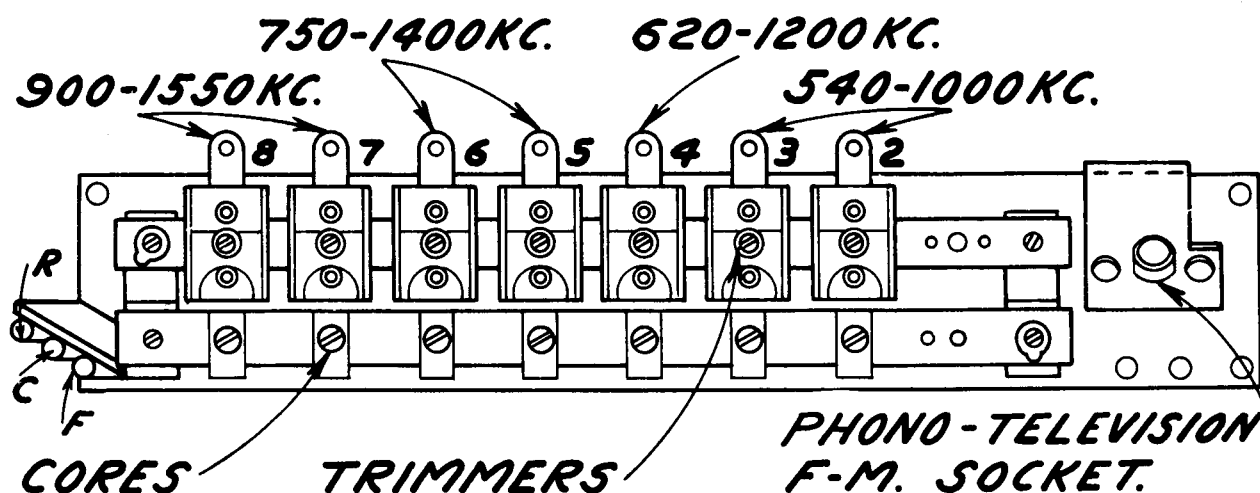

Fig. 4
(1) Turn "Range selector" to "A" position and manually tune in the first station, say 560 k.c.
(2) Turn "Range selector" to "P.B." position, press button No. 2 located second from left on front panel.
(3) Referring to Figure 4, adjust core and trimmer No. 2 for a peak at 560 k.c. This adjustment can be made with the assistance of the "Magic Eye".
(4) Proceed to adjust the other six stations in order of frequency, as outlined above.